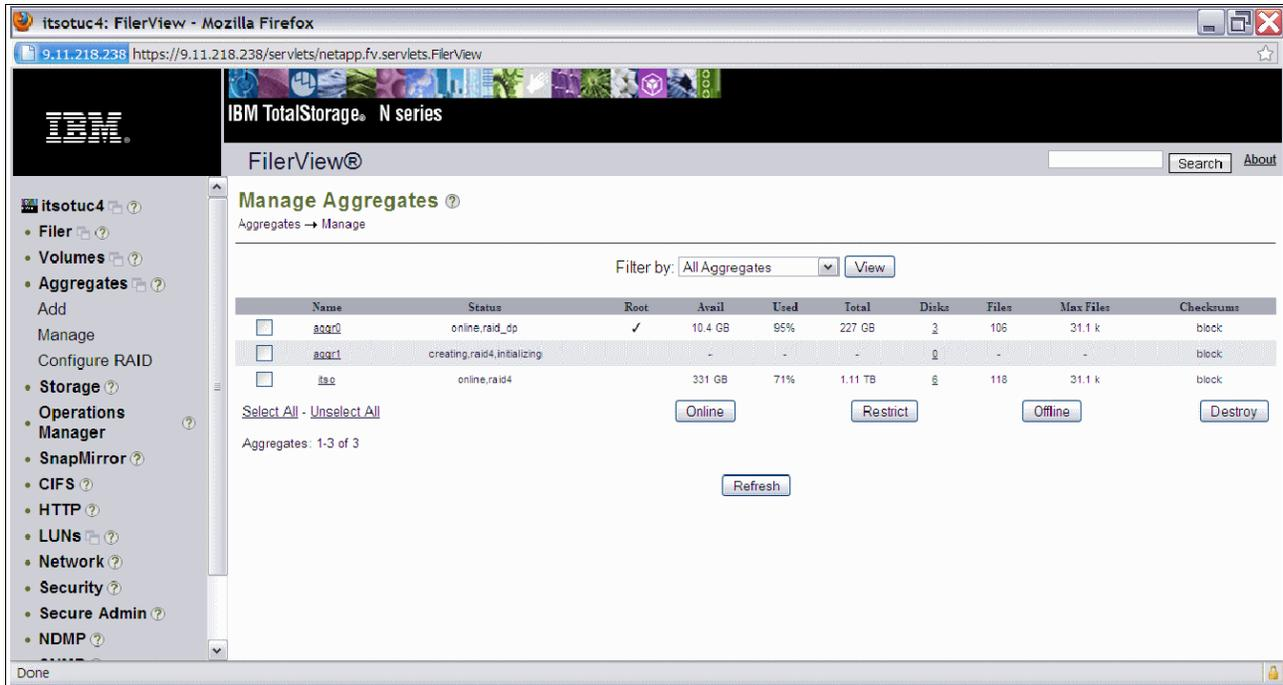

Figure 7-9 Aggregate verification
- To verify that the System Manager has sent the commands to the filer use the FilerView. From a browser window, click **Aggregate** → **Manage**. There will be a new status reflecting the modifications (Figure 7-9). As you can see in this window, the new aggr1 is added to the current list even though it is not online but in initializing status.